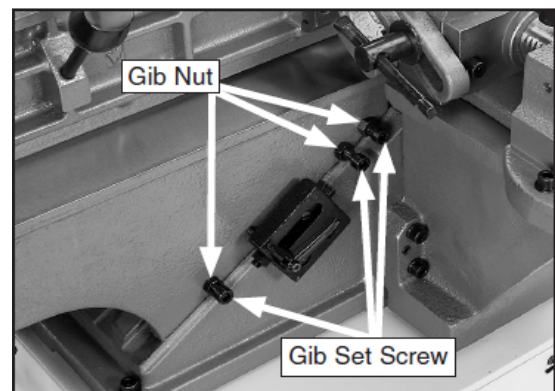

Figure 21
1. Loosen gib lock nuts and gib lock screws. As shown in Figure 21